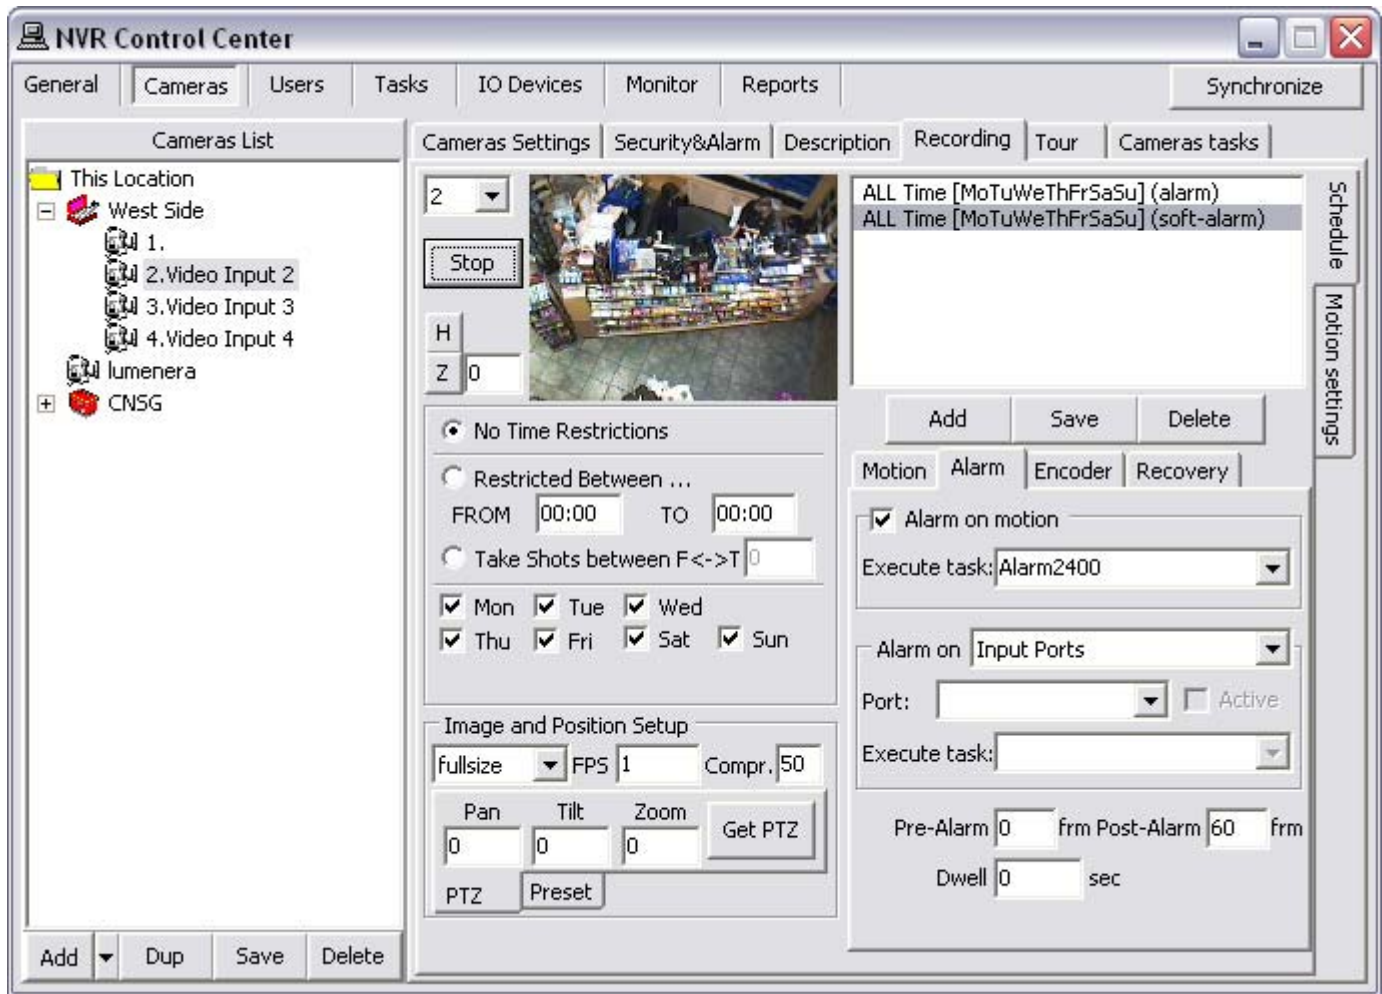

Fig 51. NVR Control Center — Cameras — Recording — Schedule — Alarm
1. With a selected camera schedule switch to the **Alarm** tab below the schedule list (Fig 51).